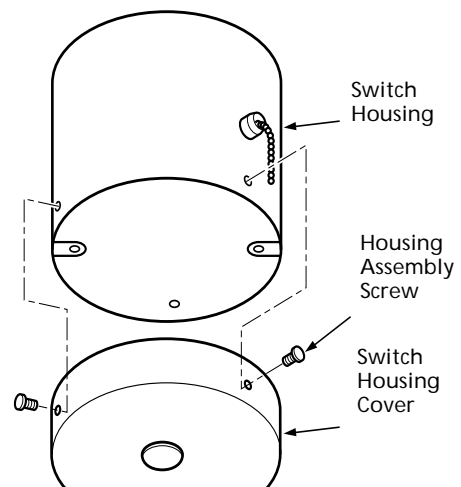

Figure 9b - Removing Switch Housing Cover
1. Remove the switch housing cover from the switch housing by removing the three #6-32 housing assembly screws from the sides of the switch housing. See Figure 9b.